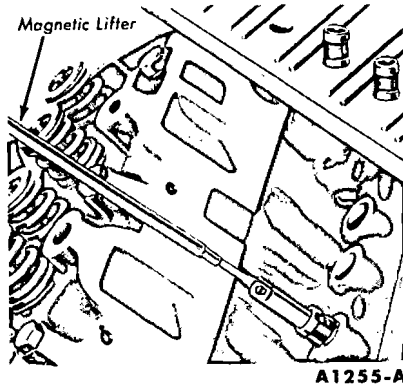

FIG. 77—Valve Lifter or Tappet Removal—Intake Manifold Removed
11. Lift the valve lifters or tappets from the cylinder block and place them in a rack so that they can be installed in their original bore (Fig. 77).